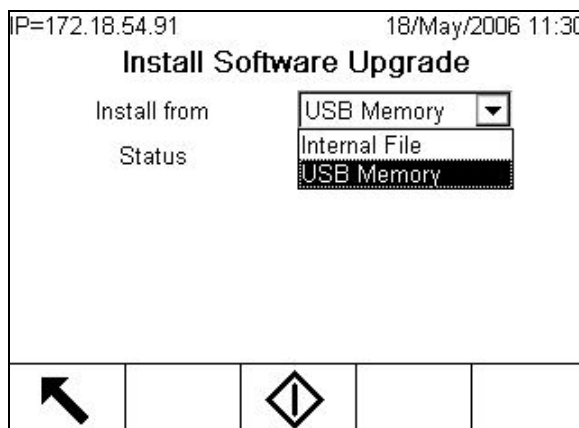

Figure 3-5: Firmware Upgrade From USB Memory
5. With focus on the Install from box, press ENTER, and use the DOWN arrow key to highlight USB Memory, as shown in Figure 3-5, then press ENTER to make the selection.